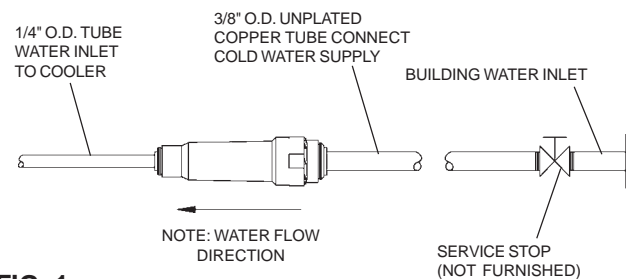

FIG. 1
3. Connect fountain to supply line with a shut-off valve and install a 3/8" unplated copper water line between the valve and the cooler. Remove any burrs from the outside of water line. Push the tubes straight into the fittings until they reach a positive stop, approximately 3/4" (see figures 1 and 2). **DO NOT SOLDER TUBES INSERTED INTO THE STRAINER AS DAMAGE TO THE O-RINGS MAY RESULT.**